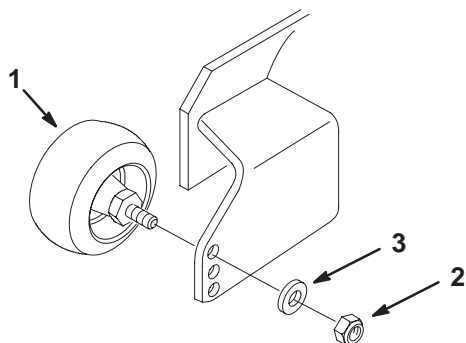

Figure 23
1. After adjusting height-of-cut, check the gage wheels so that there is a minimum of 3/8 inch (10 mm) clearance above the ground (Figures 23, 24, and 25).
2. If adjustment is needed, remove the bolt, washer(s) and nut (Figures 23, 24, and 25).
3. Select a hole position so the gage wheels are a minimum of 3/8 inch (10 mm) off the ground (Figures 23, 24, and 25).
4. Install the bolt, washer(s) and nut (Figures 23, 24, and 25).